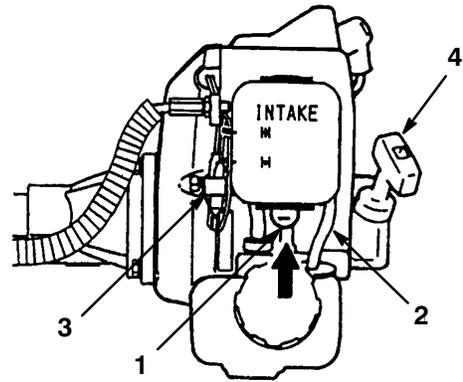

Figure 11
1. Pump the primer bulb at the bottom of the carburetor until fuel can be seen flowing through the fuel return line to the fuel tank (Figs. 11). (Flowing fuel should be almost clear, not foamy or full of bubbles.)
2. Move the choke lever to the closed ($\overline{\text{I}}$) position and move the stop switch to the “ON” position (Figs. 11 and 12).
4. After the engine starts, move the choke lever to the open ($\overline{\text{O}}$) position, then squeeze and release the throttle trigger to allow it to return to the idle position (Figs. 11 and 12).
- A. Go ahead and open the choke (Fig. 11).
1. Pump the primer bulb at the bottom of the carburetor until fuel can be seen flowing through the fuel return line to the fuel tank (Figs. 11).
2. Move the choke lever to the open ($\overline{\text{+}}$) position and move the stop switch to the “ON” position (Figs. 11 and 12).
3. Leave the throttle trigger in the idle position and pull the starter handle (Figs. 11 and 12).